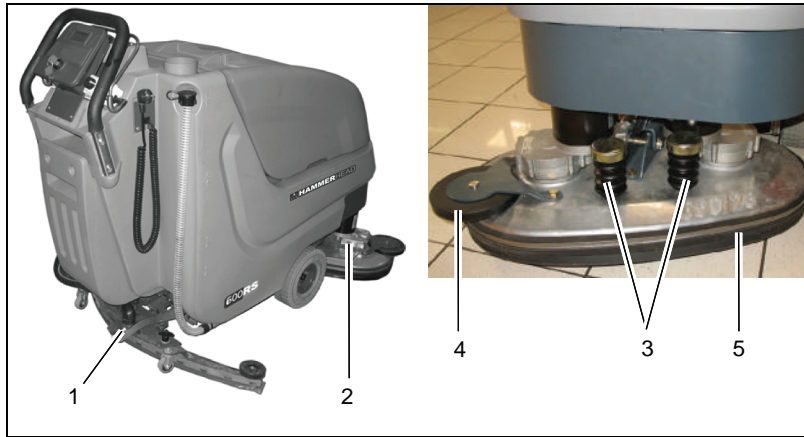

Fig.10
Clean brushes of the brush deck (Fig. 10/2) at daily intervals or as required.
1. Use pedal (Fig. 10/1) to lift up brush deck.
2. Press brush ejectors (Fig. 10/3) down to remove brushes for cleaning.
2. Press brush ejectors (Fig. 10/3) down to remove old brushes.
Check roller bumper (Fig. 10/4) at weekly intervals or replace as required.
Check sealing strip (Fig. 10/5) at weekly intervals or as required. Before doing so, open toggle-type fastener and remove sealing strip. Proceed to mounting in reverse order.